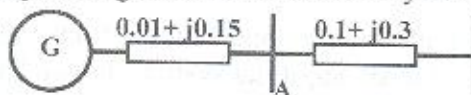

Fig. 2
- 2-d Consider the transmission line connected to a generator as shown in Fig. 2. The impedance data for the generator and the line are given in the Figure. A relay located at terminal A detects all faults on the transmission line. Assume a pre-fault voltage of 1.0 pu, and allow for a possible steady-state overvoltage of 1.2 pu during normal operation. Determine the pickup settings for an overcurrent relay used as fault detectors for this circuit. Allow a sufficient margin between the normal conditions and the pickup settings to accommodate any inaccuracies in relay performance.